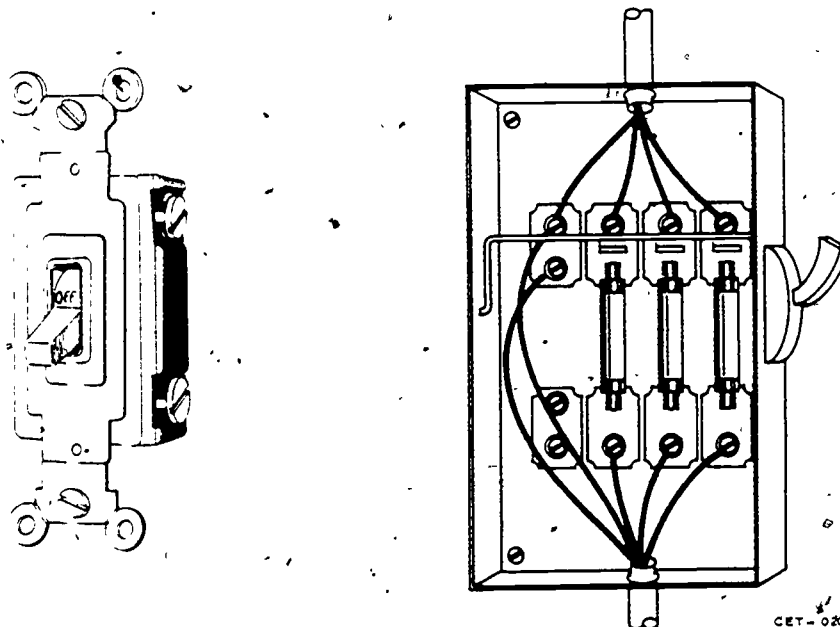

Figure 11. Toggle Switch and Safety Switch
At this point, you are to read Article 430 of the N. E. C. in its entirety. Article 430 allows certain motors under certain conditions to be controlled by a simple device, such as a toggle switch or safety switch, shown in figure 11.
**Safety Switch** - Safety switches of all designs will also be used as controllers in some cases. A nonfusible safety switch would provide only a manual control means, where a fusible safety switch can in some cases provide overcurrent protection and control means. See figure 11.